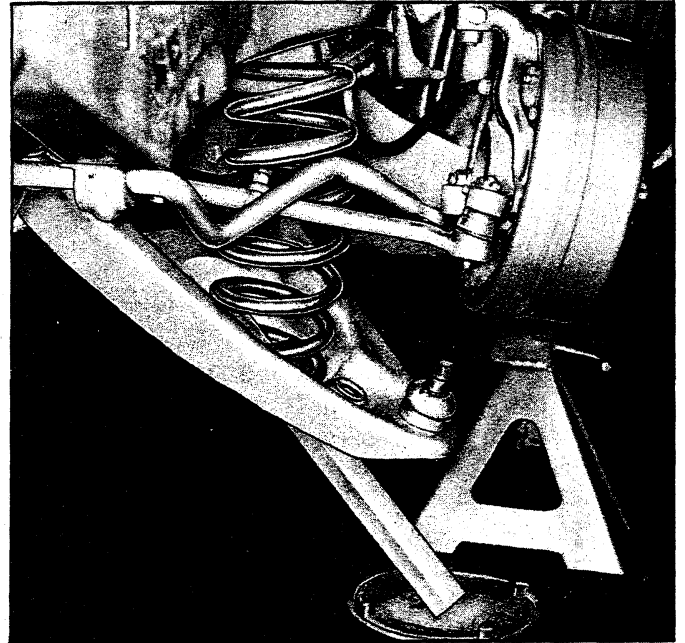

Fig. 21 - Front Spring Removal - Chevelle & Camaro
6. Lower control arm as shown in Figure 21, until spring can be removed.
1. Properly position the spring on the arm and with the steel bar in place, as shown in Figure 21, lift the arm up until the ball stud may be installed in the knuckle. Install the nut and cotter pin.